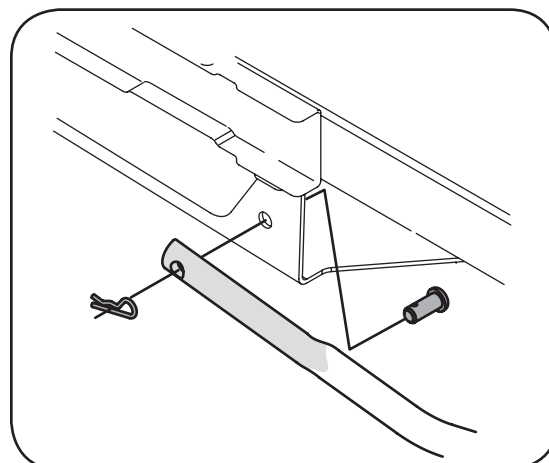

Figure 6-9
1. Secure the left support tube to the front of the undercarriage assembly with the clevis pin and hairpin clip removed earlier. See Figure 6-9.